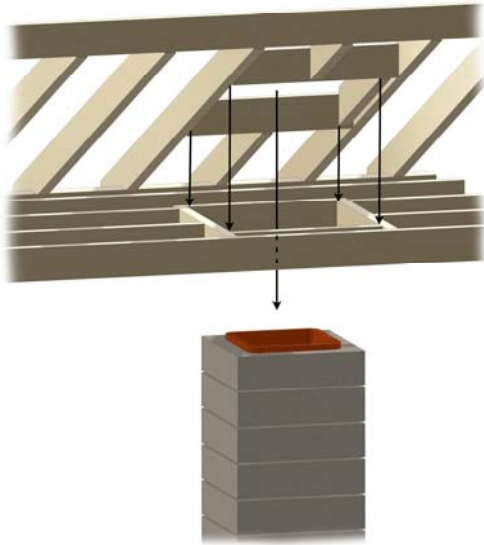

Figure 24. Roof Penetration
C. Measure to all sides of the nail and mark the required opening, and then cut a hole in the roof. Remember that the hole is measured on the horizontal, and then projected to the roof. The hole may then be larger, depending on the pitch of the roof. See Figure 24.